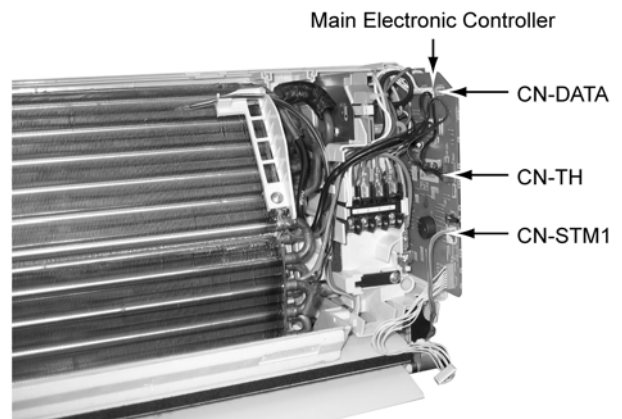

Fig. 5
- Release the CN-DATA. (Fig. 5)
- Release the CN-TH. (Fig.5)
- Release the CN-STM1. (Fig.5)